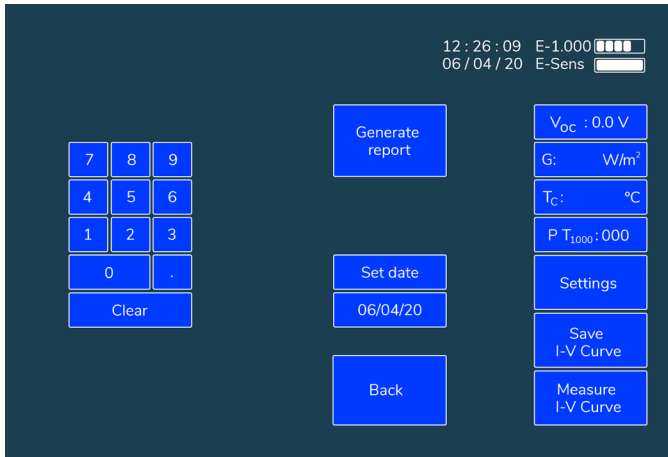

Figure 5.11. Image of a “Generate report” sub-menu.
7. Press the generate report button (see Figure 5.11.).